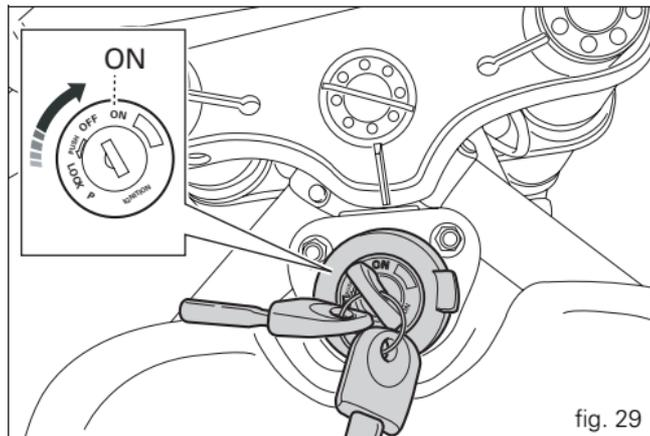

fig. 29
- 1) Turn the ignition switch to **ON** (fig. 29). Check that both the green light **N** and the red light  on the instrument panel come on.